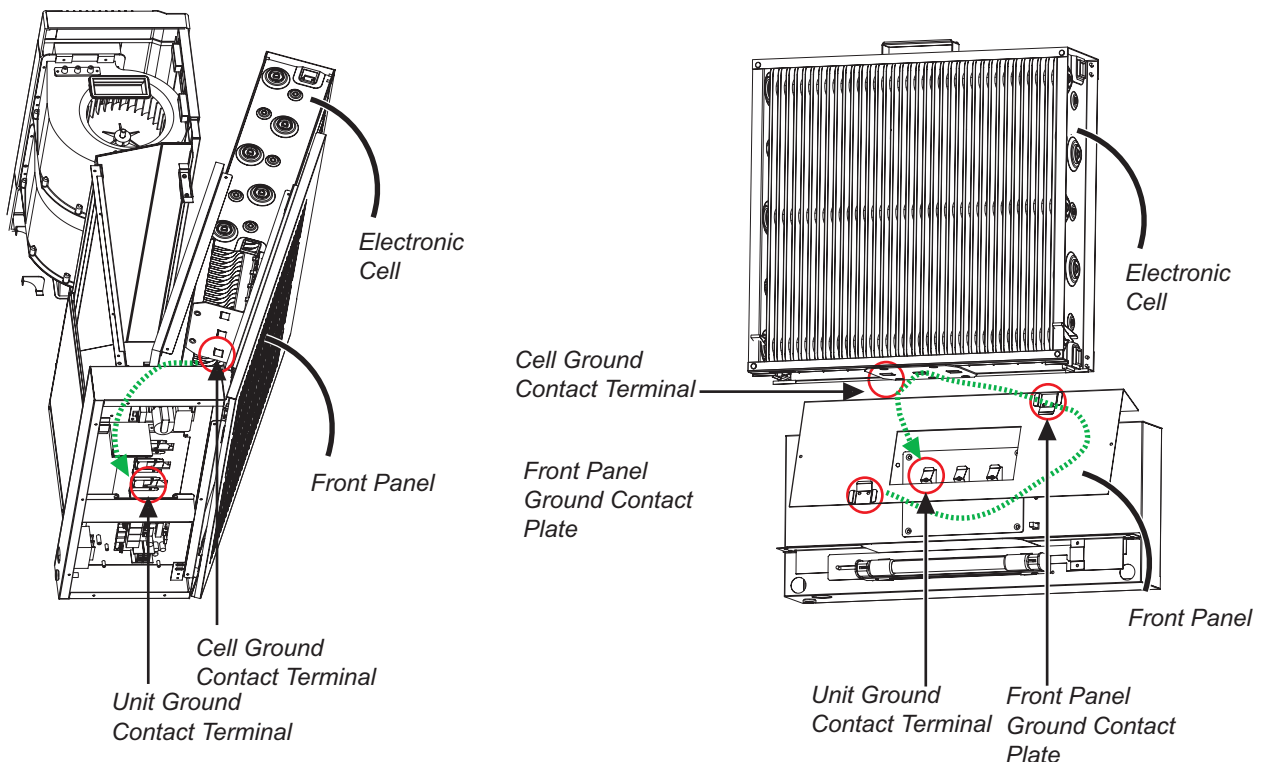

Fig. 5.10-5 The front panel is grounded through the two ground contact plates.
1. The front panel, cell frame, pre filter and discharge switch are grounded by the unit ground terminal and through the ground wire to the ground screw 2# (Fig. 5.10-5).